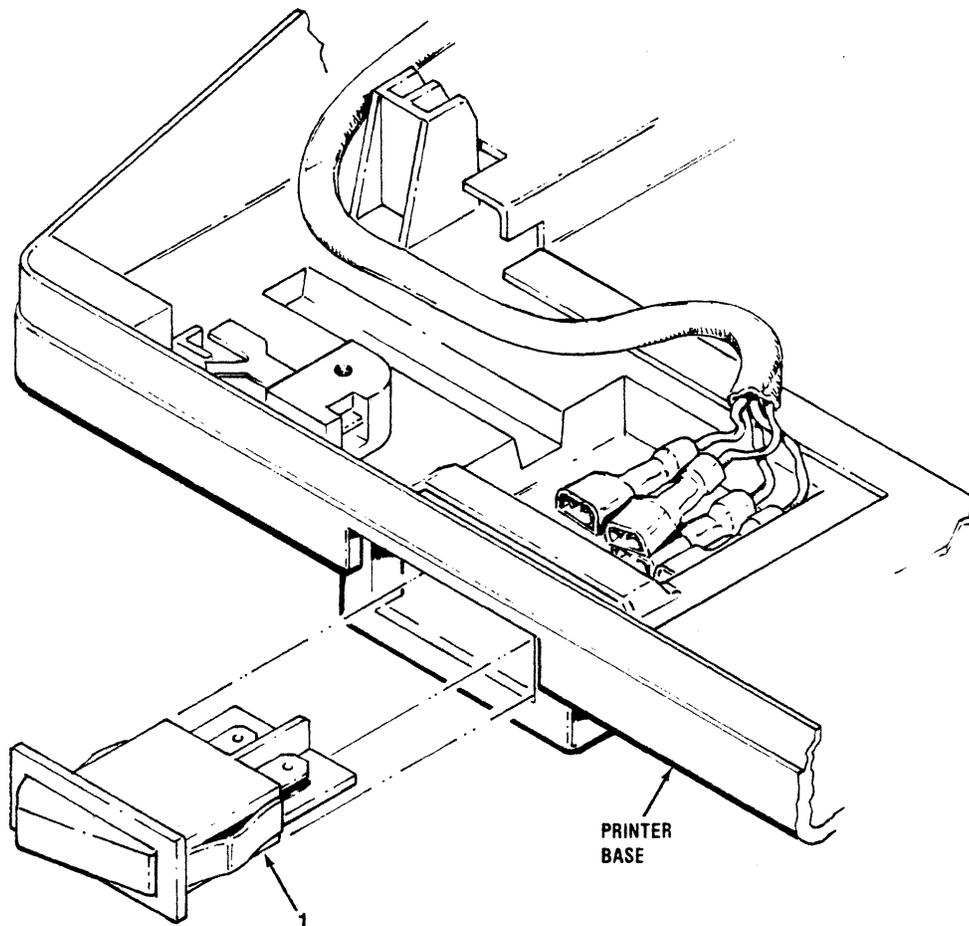

Figure 3-21 Removal/Replacement, On/Off Switch
The ON/OFF switch, item 1 of Figure 3-21, is located on the left front of the printer base and no tools are required to remove the switch. To remove the ON/OFF switch, refer to Figure 3-21 and perform the following steps:
4. Push the switch forward through the opening in the printer base and remove the switch (1) from the printer.